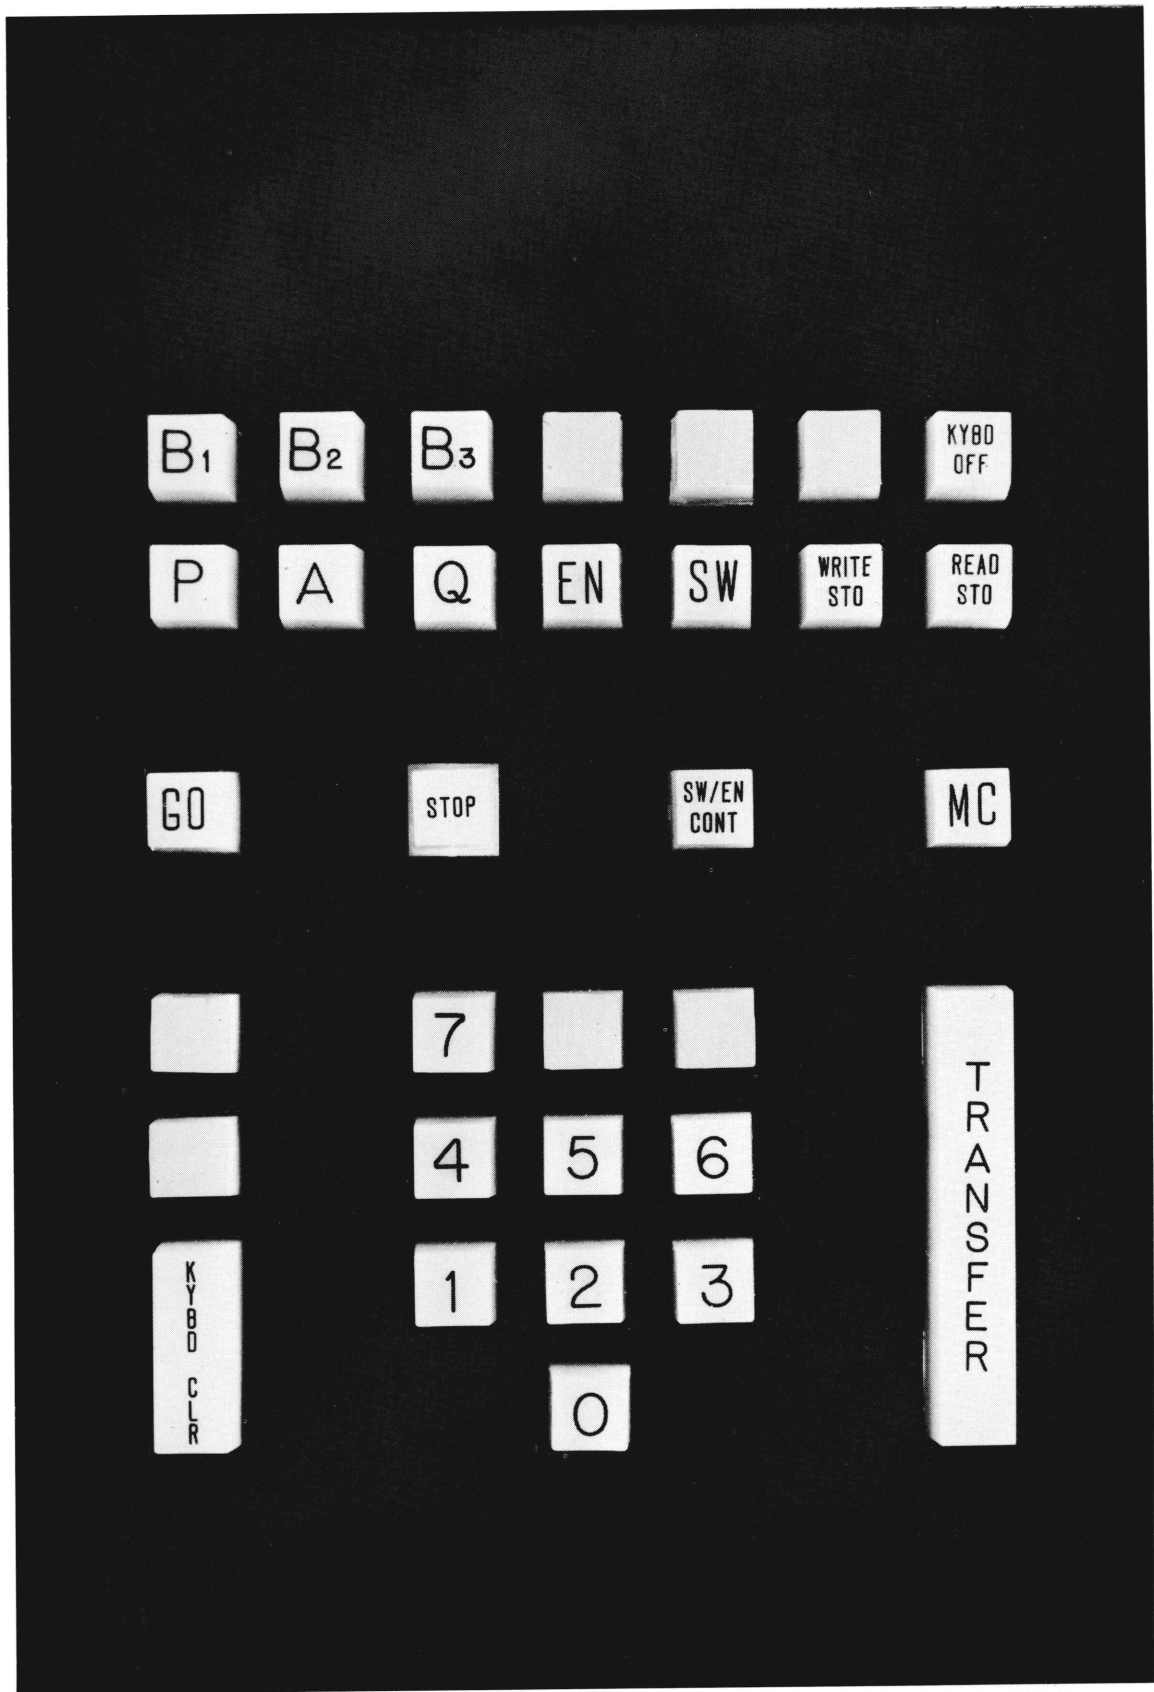

Figure 4-3. 3104 Console Keyboard
*Entry Keyboard:* The entry keyboard at the console replaces the Set and Clear push buttons that are on most CONTROL DATA computers for the manual entry of information. Figure 4-3 shows the 3104 console keyboard. Table 4-3 lists and describes the keyboard switches.